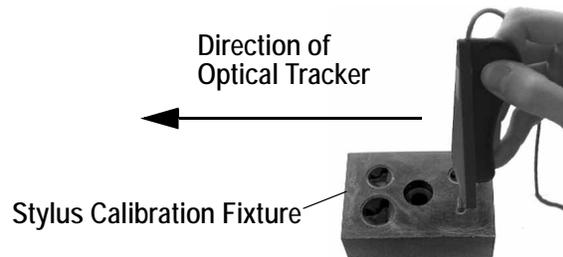

Figure 4-4 Probe Position for First Measurement Point
2. Position the probe so that it is vertical (straight up and down), with the probe targets facing the Optical Tracker (as shown in Figure 4-4 below).